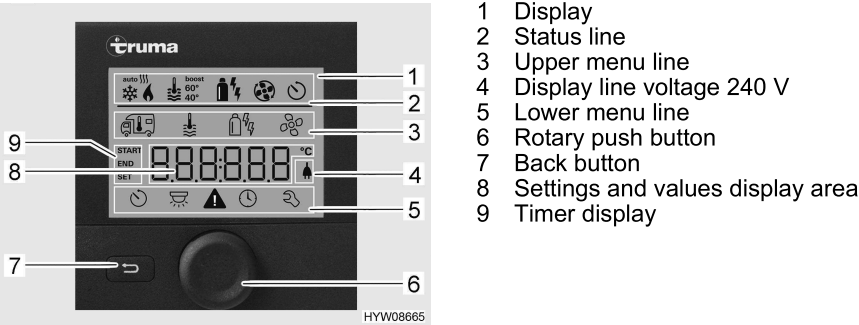

Fig. 82 Operating unit with displays
- Status line (Fig. 82,2)
- Upper menu line (Fig. 82,3)
- Display area (Fig. 82,8)
- Lower menu line (Fig. 82,5)
- Press and hold the rotary push button (Fig. 82,6) for approx. 3 seconds. Both menu lines (Fig. 82,3 and Fig. 82,5) are displayed. The first symbol flashes.
- Turn rotary push button (Fig. 82,6) until the required menu symbol flashes.
- Press rotary push button to save the value set. If you do not wish to change the value originally set: Press back button (Fig. 82,7).
- Turn rotary push button (Fig. 82,6) until the heater menu symbol (Fig. 83,1) flashes.
- Press rotary push button to save the value set. The symbol in the status line (Fig. 82,2) flashes until the room temperature set is reached. If you do not wish to change the value originally set: Press back button (Fig. 82,7).
- Turn rotary push button (Fig. 82,6) until the hot water menu symbol (Fig. 83,2) flashes.
- Press rotary push button to save the value set. The symbol in the status line (Fig. 82,2) flashes until the hot water temperature set is reached. If you do not wish to change the value originally set: Press back button (Fig. 82,7).
- Turn rotary push button (Fig. 82,6) until the menu symbol operating mode (Fig. 83,3) flashes.
- Press the rotary push button to save the set operating mode. To revert to the original setting: Press back button (Fig. 82,7).
- Turn rotary push button (Fig. 82,6) until the fan menu symbol (Fig. 83,4) flashes.
- Turn rotary push button (Fig. 82,6) until the timer menu symbol (Fig. 83,9) flashes.